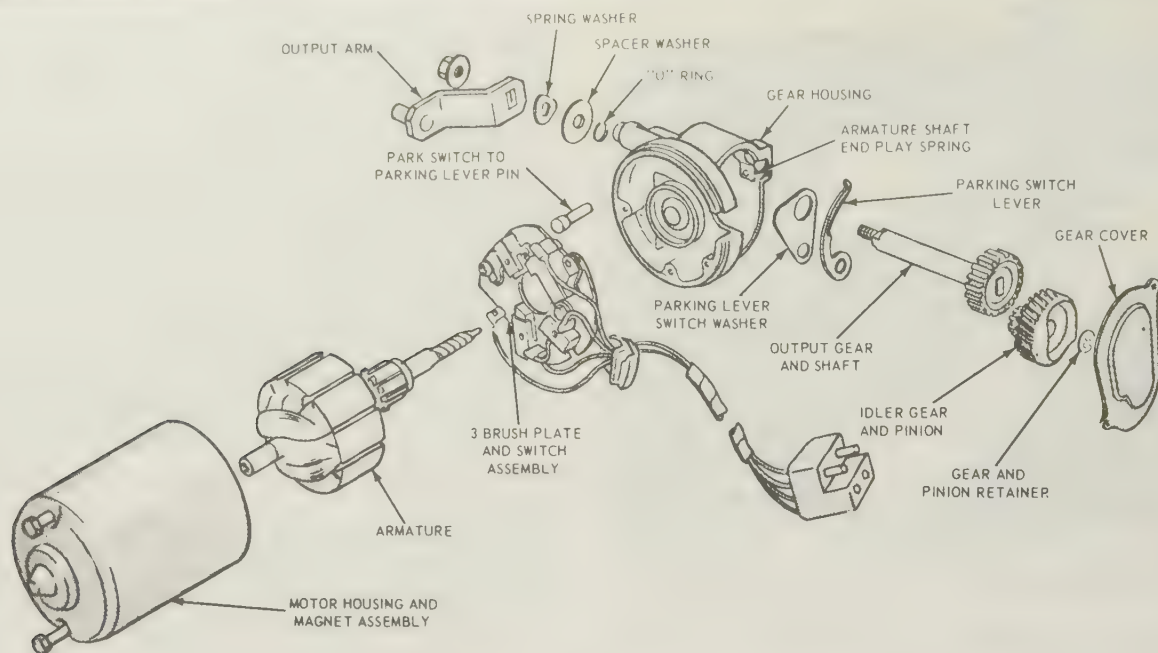

Fig. 10.37. Windshield wiper motor components (Sec. 51)
- 1 Undo and remove the gear cover securing screws and lift away the ground terminal and cover (Fig. 10.37).